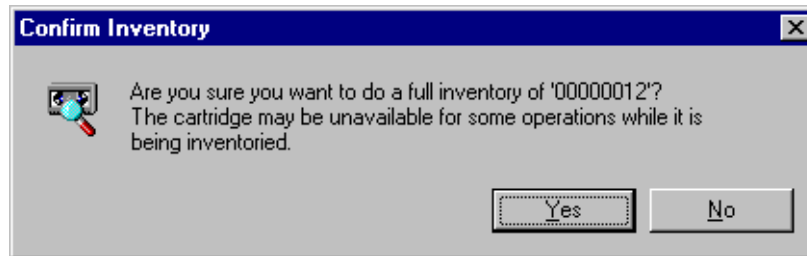

Figure 64. Confirm Inventory dialog box
2. Choose **Inventory** from the **File** menu or from the shortcut menu with a right-click. Since the inventory takes several minutes to complete, you are asked to confirm the operation, as shown in Figure 64.